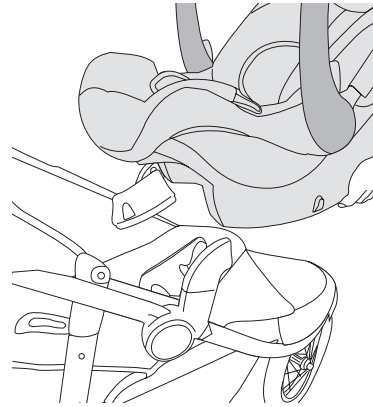
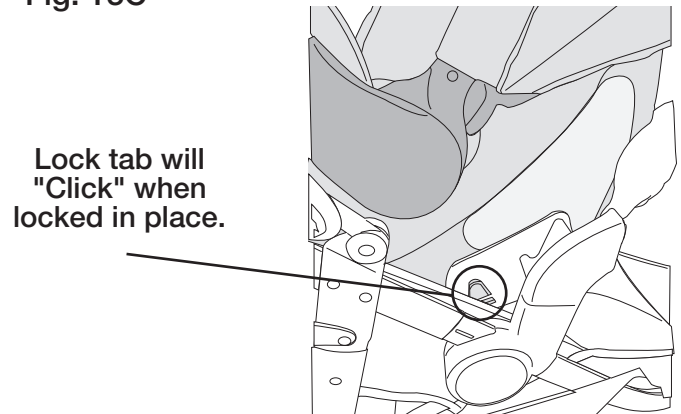

Fig. 13C
Fig. 13D
- To attach Chicco car seat, line up foot end of car seat toward stroller (Fig. 13C). Slide car seat into Chicco adapters. Make sure car seat is locked in place by pulling upward on car seat. Car seat is secured when both side lock tabs have "clicked" into place and car seat does not lift up. (Fig. 13D) To remove car seat, lift the back lever located on the back of the car seat and lift car seat upward to fully remove.